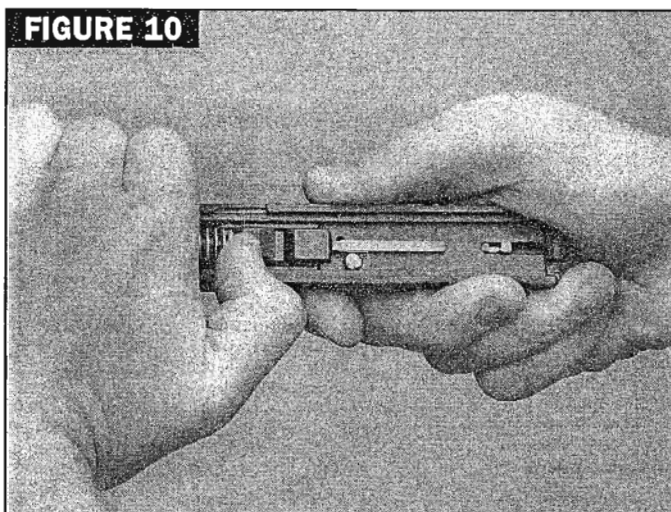

FIGURE 10
- Push the recoil spring tube slightly forward while lifting it away from the barrel (Fig. 10).